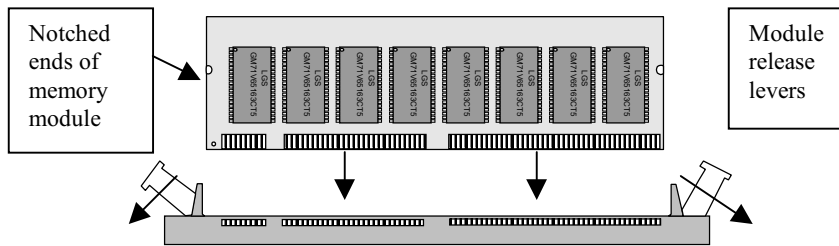

Figure 3.1: DIMM Orientation
1. Move the module release levers (on each end of the socket) outward, away from the socket. (Please see the Figure 3.1)